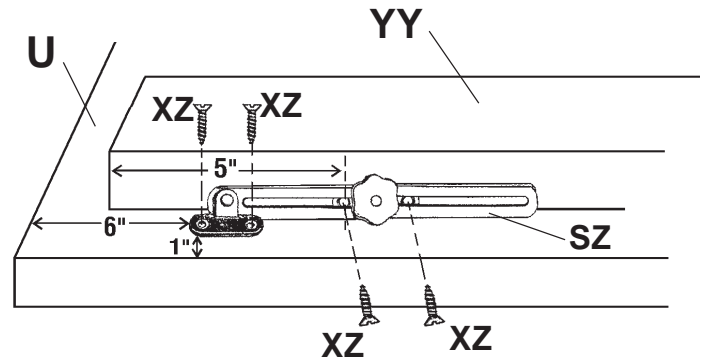

FIG. 17B
To attach the Lid Support (SZ), measure 6" down from top edge of the Table (U) and in 1". Mark this location for the uppermost screw hole for the lid support. Insert a #5 x 5/8" Brass Flat Head Screw (XZ) through the lid support into the table. Measure 5" from the end of the Leg (YY) for the upper screw on the plate and insert a #5 x 5/8" Brass Flat Head Screw (XZ). Now insert the other two screws. See FIGURE 17B.